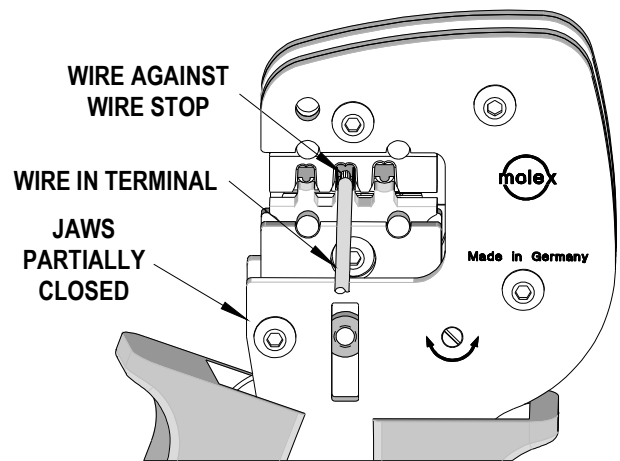

Figure 4
8. Gently touch the wire stop with the end of the wire. See Figure 4 and 5.